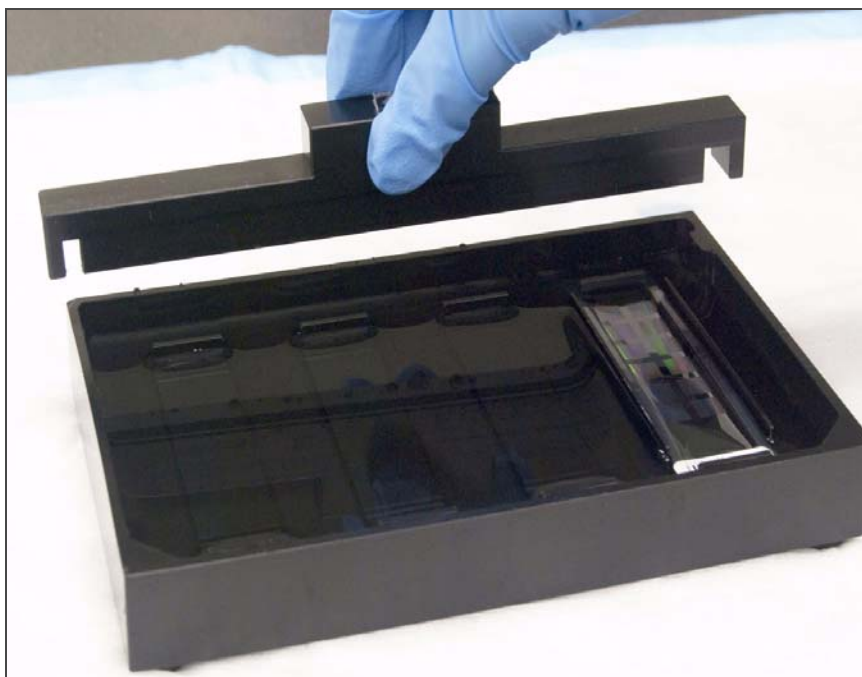

Figure 54 Placing Alignment Bar onto Alignment Fixture
5. Place the Alignment Bar onto the Alignment Fixture (Figure 54).